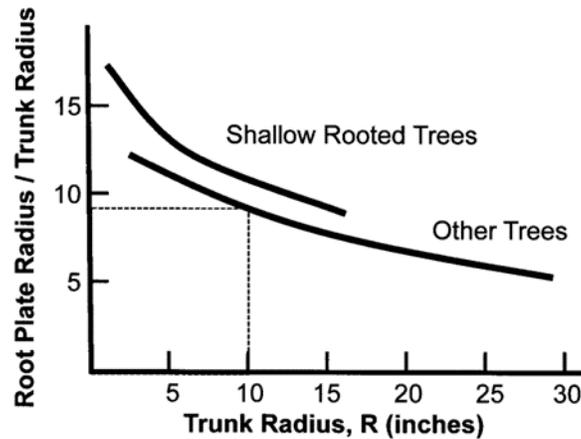

Figure 14. For example, a 10-inch trunk radius needs a root plate/trunk radius coefficient of 9. This would be 90" root plate radius ($90"/10" = 9$).
- **Mattheck Model [Figure 14]** below.